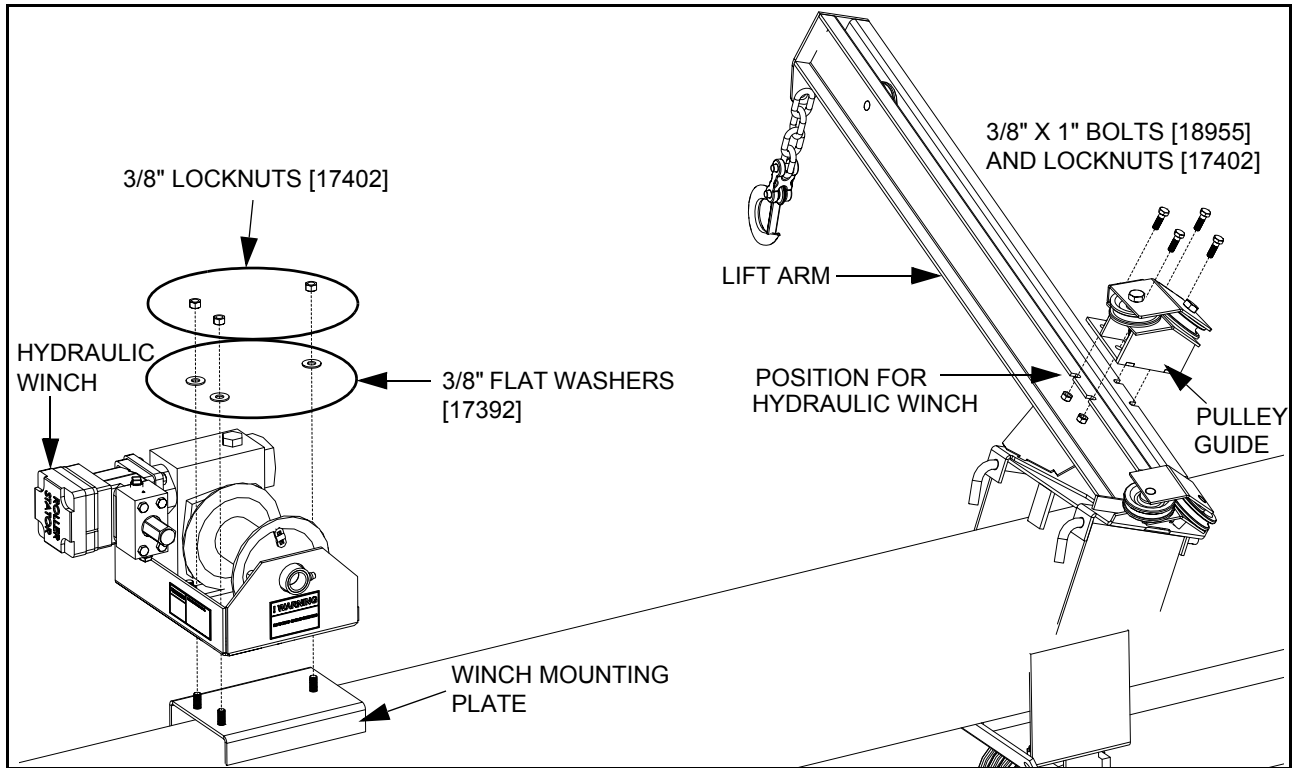
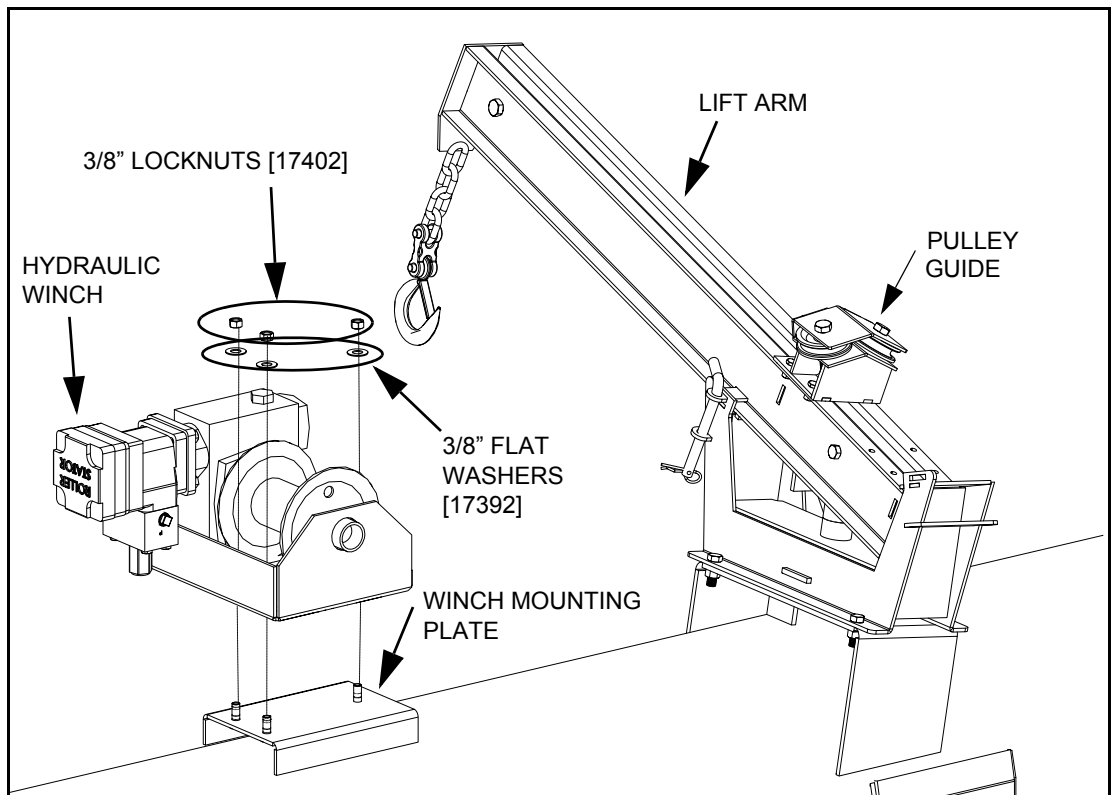

Figure 1 Installing the Hydraulic Winch (MKX100, X100, HX100)
Figure 2 Installing the Hydraulic Winch (MKX130, X130, HX130)
3. Install the hydraulic winch (see Figure 1 or Figure 2).
4. For 100 series: Install the pulley guide onto the lift arm (see Figure 1).